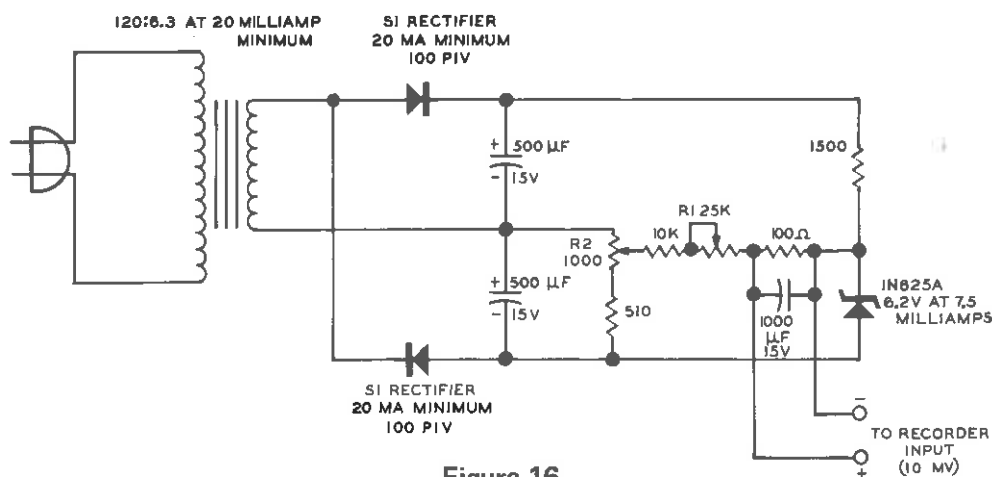

Figure 16
Line voltage variations can be monitored with the bridge circuit shown in Figure 16. You will need an ac voltage source that can be varied from 95 volts to 145 volts.
1. Construct the circuit shown in Figure 16.
5. Short the input terminals together and then place the pen on the center line (50) with the ZERO POSITION control.
8. Adjust R_2 to position the pen on the center line (50).
10. Adjust R_1 to move the pen full scale (100) on the chart paper.